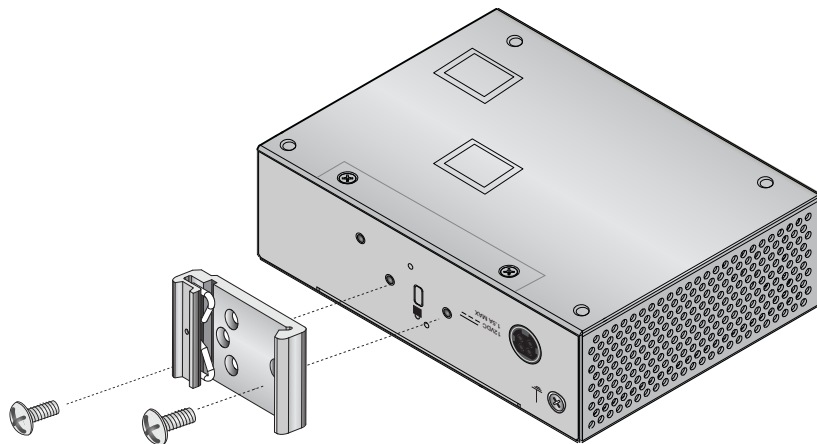

Figure 22. Orienting the mounting kit
1. Orient the DIN rail mounting kit against the back panel of the router, and make sure that the holes align, as shown in Figure 22.